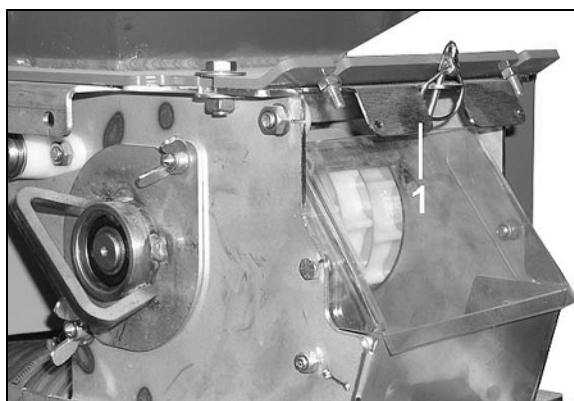

Fig. 122
3. Close the shutter (Fig. 122/1) if only the metering unit and not the seed box should be emptied (see Seite 78).